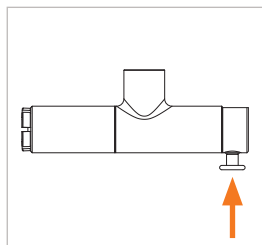

Figure 9
- ▶ Press the valve button (Pos. 4) (Figure 9). The clamping jaws open.